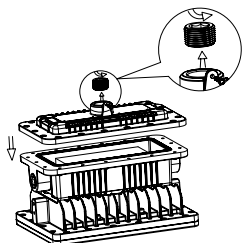

Fig. 14
1. Remove the plugging screw (Figure 14).
1. Retirez la vis d'obturation (figure 14).